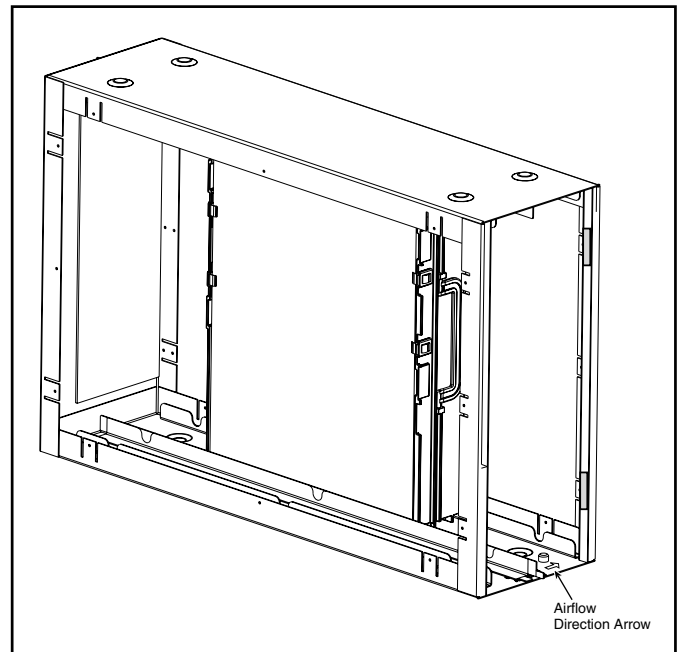

Figure 7 Airflow Direction
4. Install the air cleaner such that the airflow direction arrow on the cabinet always points towards the furnace/ air handler. See Figure 7.